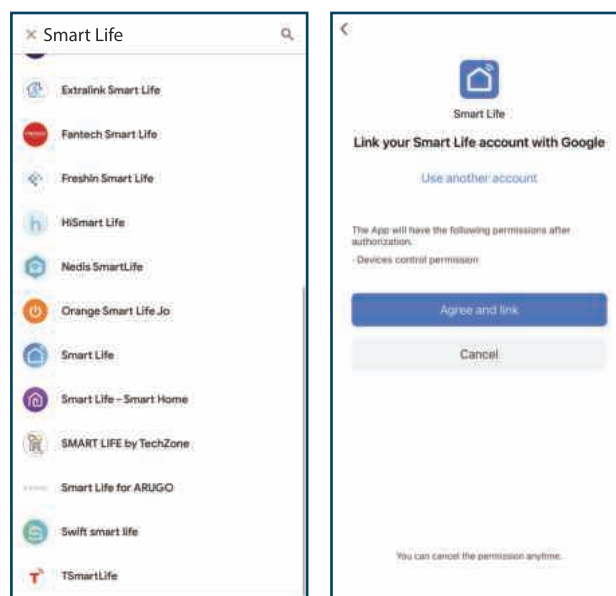

Figure 13
Step 2: Tap "Assistance". Tap "Home Control". Tap "+". Find Smart Living in the list. In the input window, select your Smart Living accounts region type and input your account and password. The link tab will be highlighted. (Figure 13)